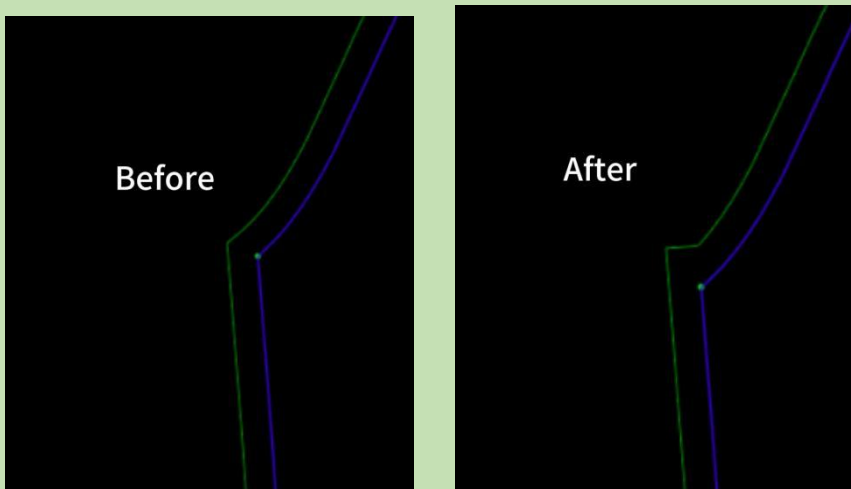

Figure5-16
2. Click on the near end of the vertical side. The comparison figure before and after setting the single right angle is shown in Figure 5-16.